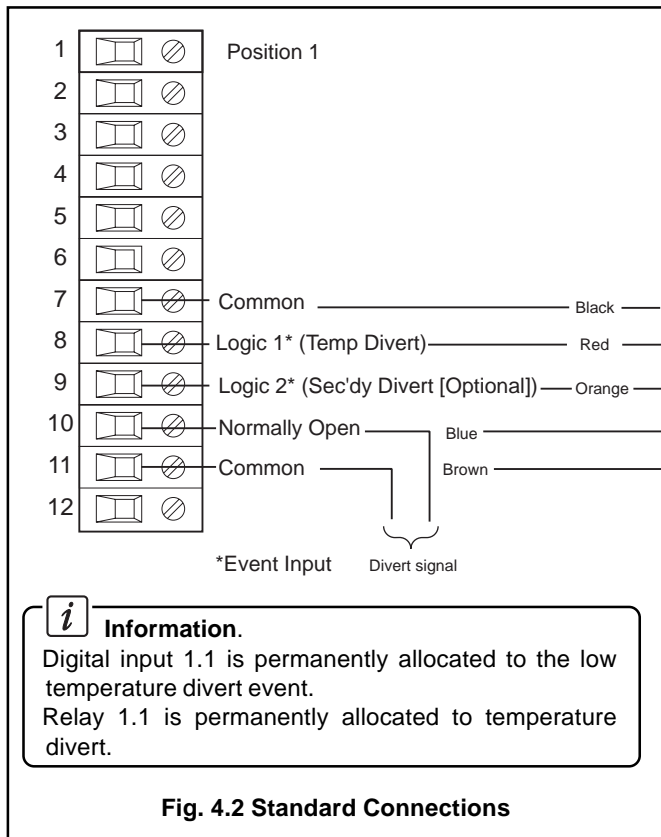

Fig. 4.2 Standard Connections
4.2 Standard Connections – Fig. 4.2